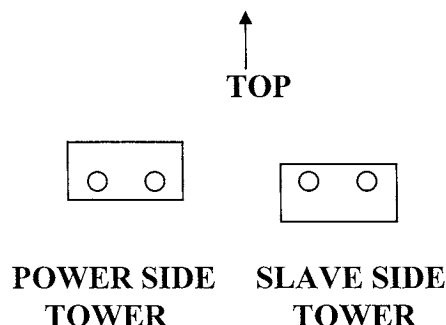

Figure 18 – Carriage Stops
7. Check bolts on the carriage stops for tightness. Note: The carriage stop on the slave side tower should have the thicker side facing downwards, and on the power side facing upwards. Refer to **Figure 18**.